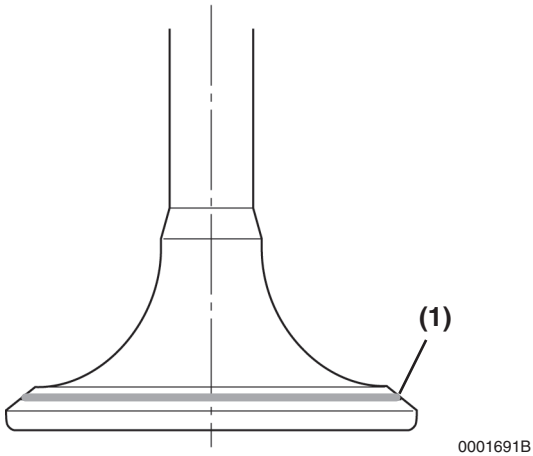

Figure 6-57
Coat the valve seat with a thin coat of bluing compound. Install the valve and rotate to distribute bluing onto the valve face. The contact pattern should be approximately centered on the valve face (**Figure 6-57, (1)**) and even in width.